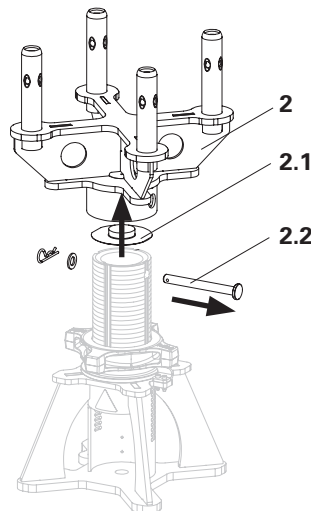

Fig. A4.02a
1. Remove the connection plate (2) from the spindle tube. (Fig. A4.02a)